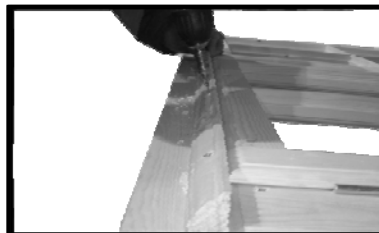

Fig A7
13. Fix the drip bar at the top of the window, there is a thin groove in one of the flat edges this needs to be facing the bottom of the building. Pre-drill seven holes and secure approx. 5mm above window inserts using 7 x 40mm screws.(figA7)